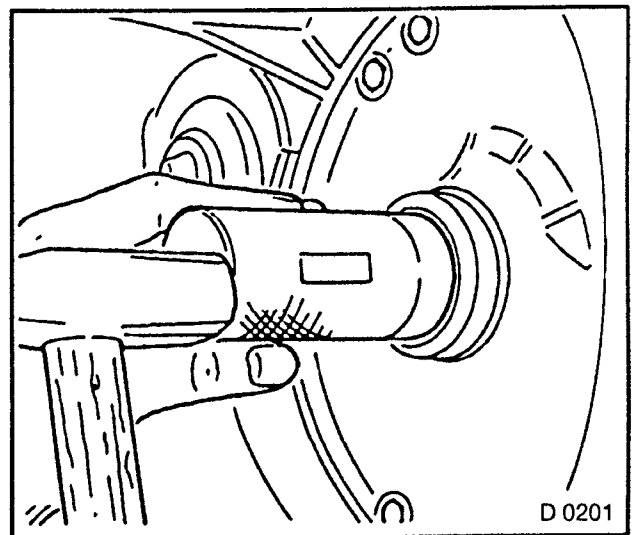

Fig 347
2. Drive in new fluid seal ring flush as far as upper edge of housing — KM-674. Fig. 347 shows procedure with fluid pump installed.